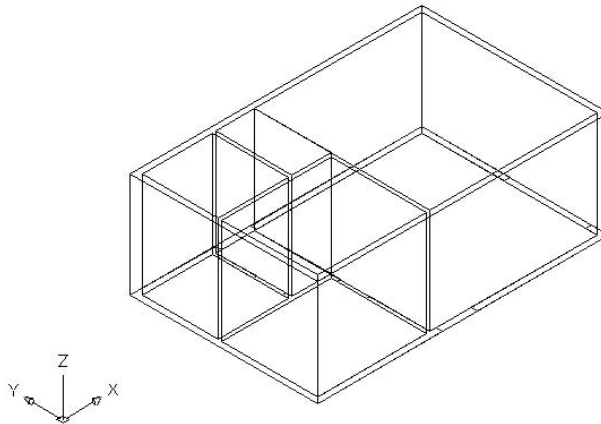

FIGURE A.4: The interior spaces of the cabin are filled with boxes.
5. Repeat step 2 twice more to create 9' boxes at the interior corners of the bedroom and bathroom (see Figure A.4).